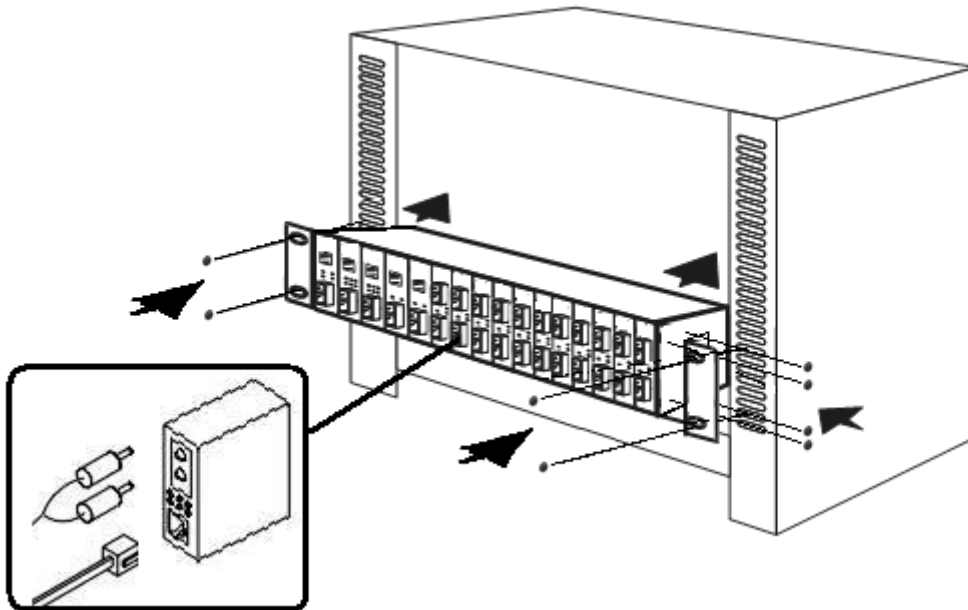

Figure 2-14 Mounting the Chassis in a Rack
Step 4: After the brackets are attached to the chassis, use suitable screws to securely attach the brackets to the rack, as shown in Figure 2-14.